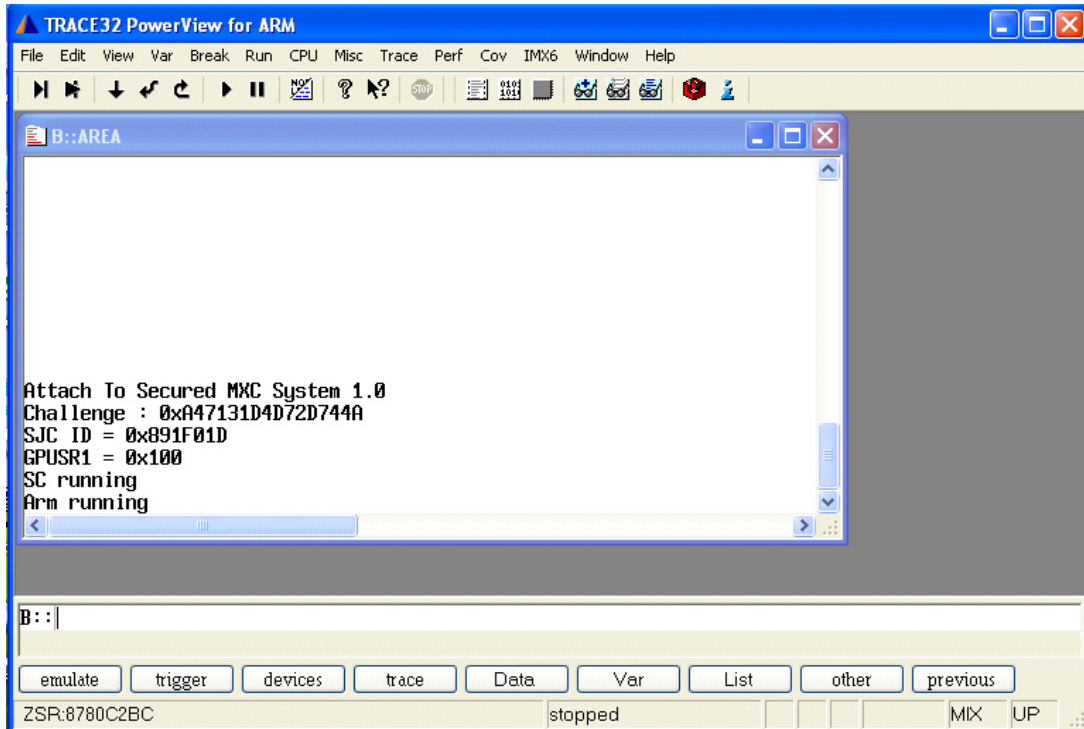

Figure 2. Successful attach over Secure JTAG
- Run the Lauterbach attach script file named “*attachmx.cmm*” using the Lauterbach host application. The debug tool should successfully attach to the i.MX 6 series target over JTAG. The screen capture in Figure 2 shows a successful attach over Secure JTAG: